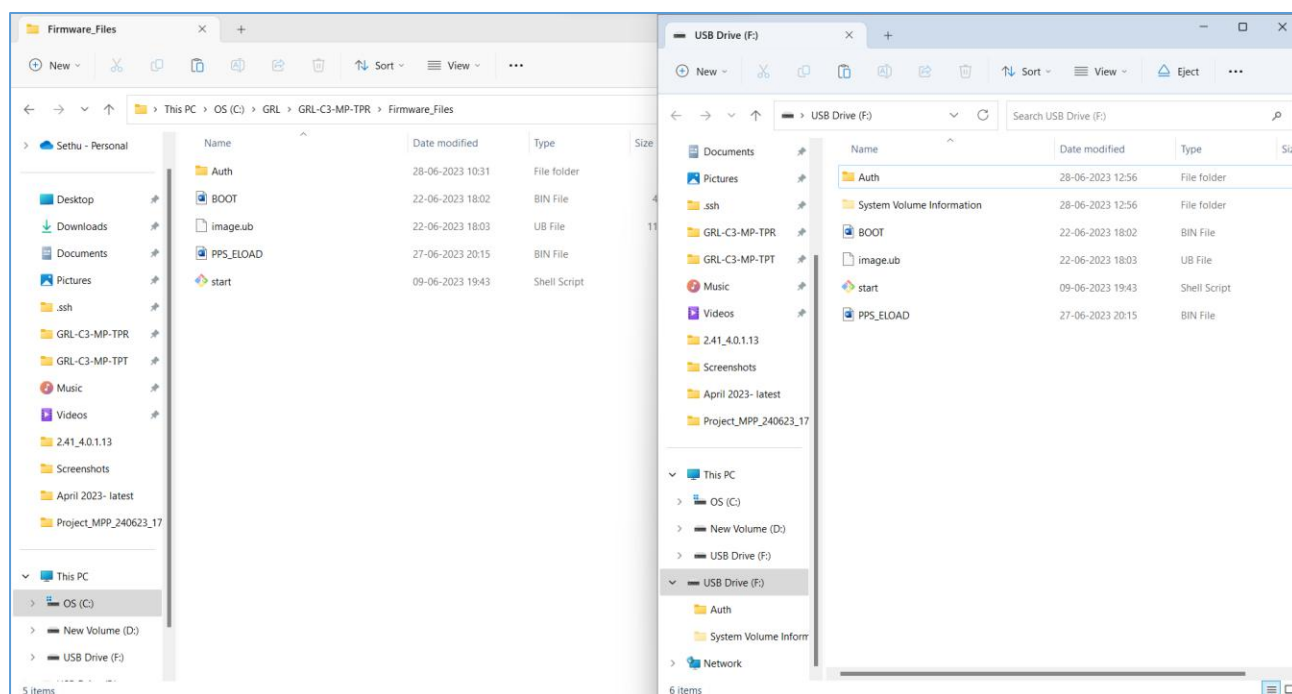

FIGURE 7.11: COPY GRL-C3-MP-TPR FIRMWARE FILES INTO REMOVABLE USB DRIVE
- b) Copy the files from “**C:\GRL\GRL-C3-MP-TPR\Firmware_Files**” into the newly detected removable USB drive. Refer to Figure 7.11 below.